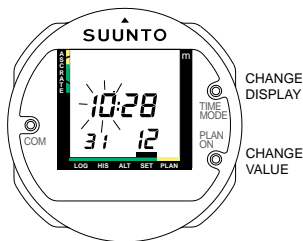
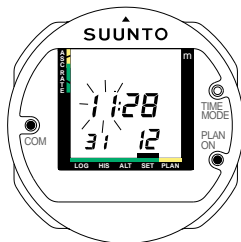

Fig.4.12 TIME SETTING
Fig.4.13 TIME SETTING
1. Activate the Time Setting mode by connecting the TIME/MODE and COM contacts continuously to scroll through the menu. Release your fingers immediately when Set appears on the display. The Time Setting display will now be shown (Fig. 4.12).
2. The hour display starts to blink immediately (Fig. 4.12). If you want to change it, keep the PLAN/ON and COM contacts connected. The hours will start to scroll (Fig. 4.13). Release your fingers immediately when the correct value is displayed. [To change the A or P for a.m. or p.m. scroll the hours past 12:00].